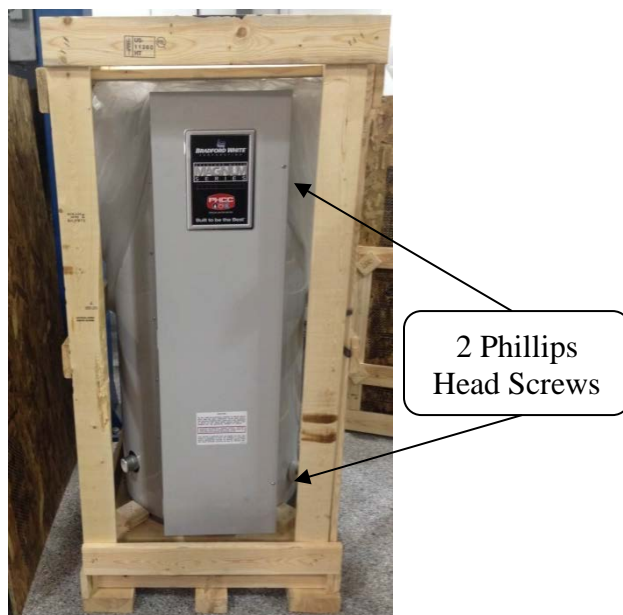

Figure 2. Control Cabinet Screws
2. Using a Phillips head screwdriver remove the 2 screws from the front right of the control cabinet door and set aside (see Figure 2). Open the control cabinet door to gain access to the electrical components.